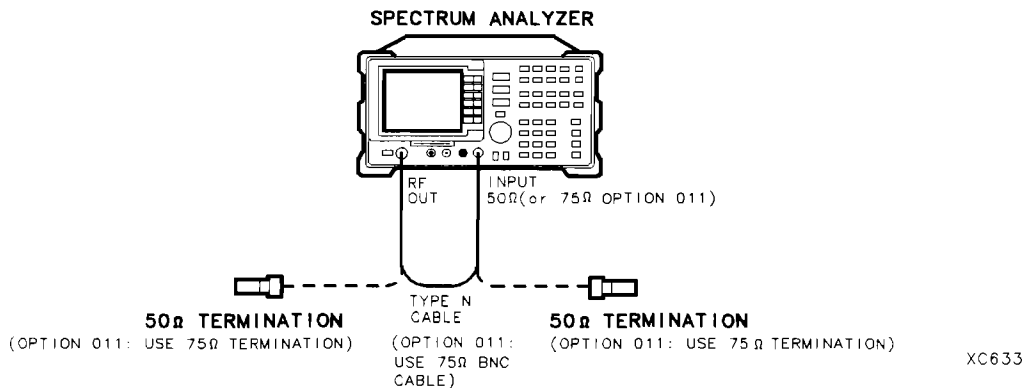

Figure 2-97. Tracking Generator Feedthrough Test Setup
1. Connect the Type N cable between the RF OUT 50 Ω and INPUT 50 Ω connectors on the spectrum analyzer. See Figure 2-97.